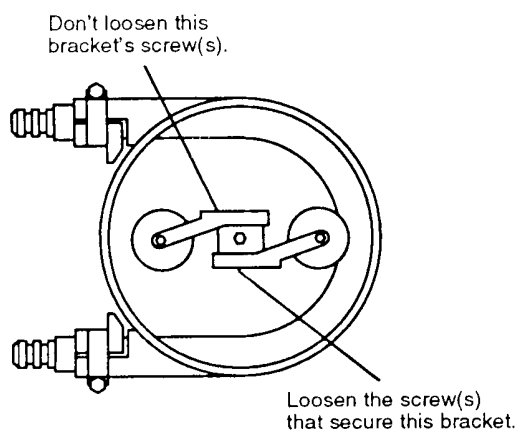

Fig. 3
3. Position the pressure rollers as shown in Fig. 3.
4. Loosen the screw(s) that secure the mounting bracket of the pressure roller which is compressing the hose. See Fig. 3. To maintain the correct hose compression adjustment, **DO NOT** touch the other roller's mounting bracket.